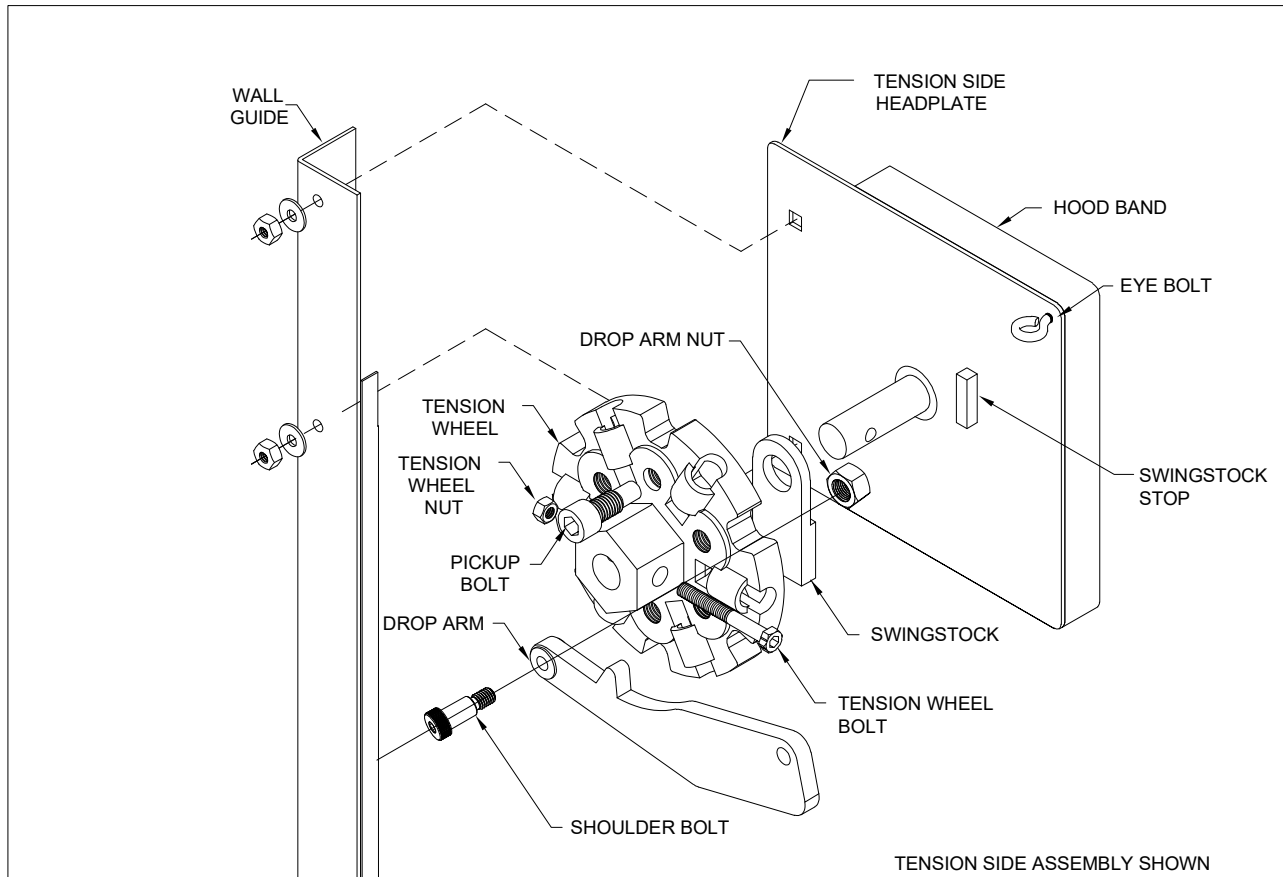

FIGURE 12
- a. Carefully secure barrel to hoisting equipment and raise into position at top of wall angles. Attach headplate brackets to wall angles as shown in Figure 12.